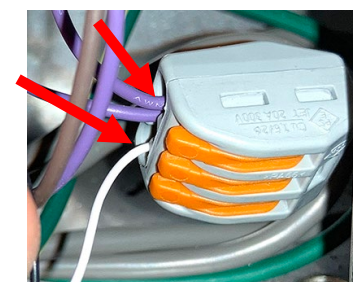

Figure 28
24. Insert both **PURPLE** wires from the power supply harness in the previous steps into the other Wago snap connector and lock the connector. Tug gently on the wires to ensure the wire is secured into the connector (see Figure 28).
25. Insert the **WHITE** wire from the KCCM power harness in step 20 into the Wago snap connector with the **PURPLE** wires and lock the connector. Tug gently on the wire to ensure the wire is secured into the connector (see Figure 28). **NOTE: The power is polarity specific. Ensure the BROWN and BLACK wires are together in a Wago snap connector and the WHITE and PURPLE wires are together in a Wago snap connector.**